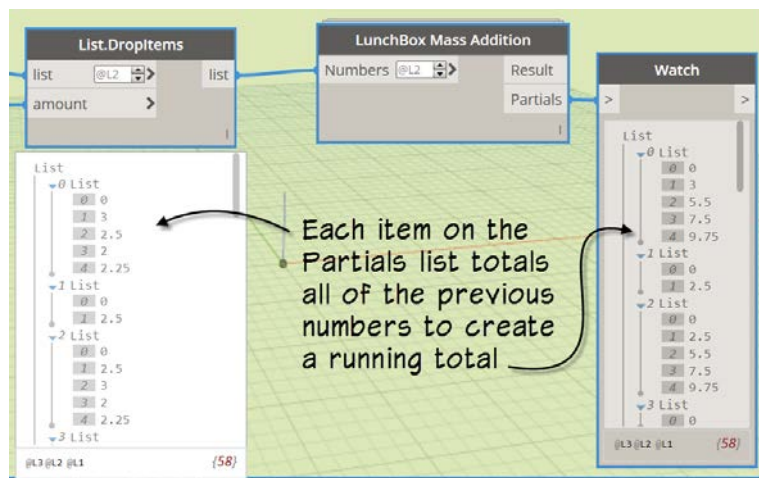

Figure 52
40. Run the graph (see Figure 52).